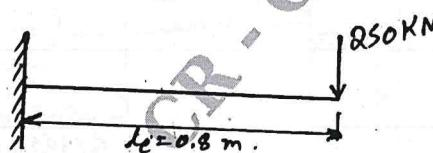

Fig Q5(b)
b. A cantilever beam subjected to point load of 250kN as shown in Fig Q5(b). Determine deflection at tip and support reactions, Take, $E = 200\text{GPa}$, $I = 4 \times 10^6 \text{mm}^4$ and $l_c = 0.8\text{m}$.